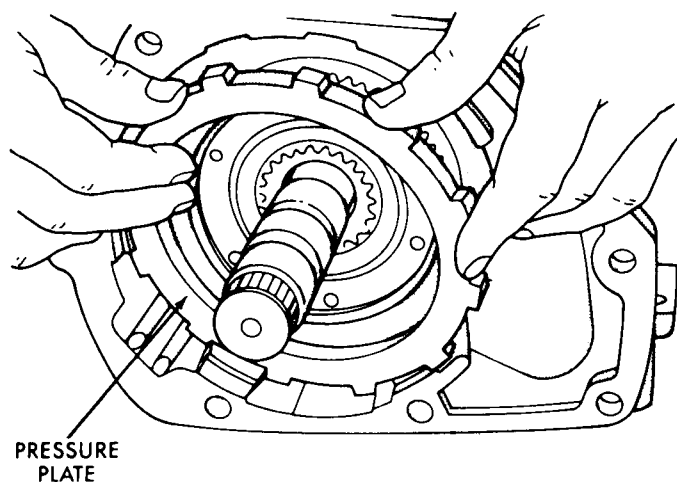

Fig. 6—Install Overdrive Clutch Pack
(8) One by one, install overdrive clutch plates and discs, be certain to put the thickest plate in last (Fig. 6).